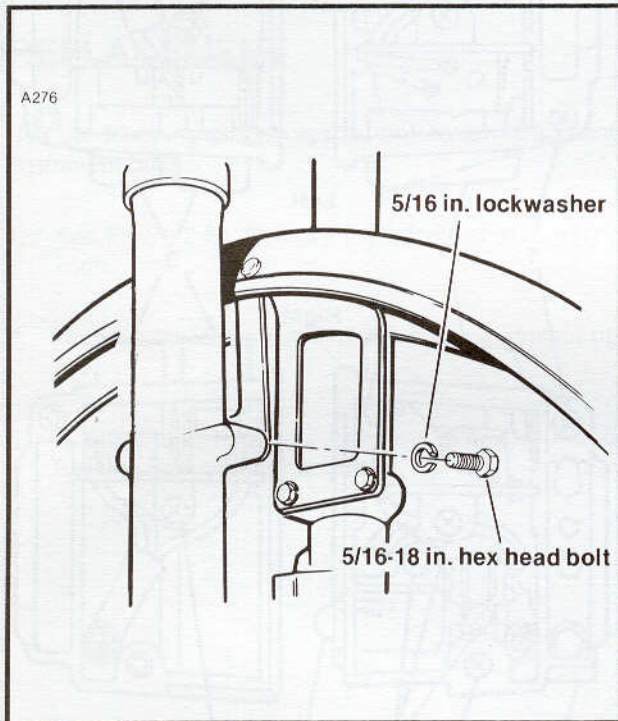

Figure 2-86. Front Fender - FXSTC
See Figure 2-86. Remove the bolts (2) and lockwashers (1) at the inboard side of the fender brace. Remove fender.
See Figure 2-86. Position new fender between fork sides. Place washer (1) on each bolt (2) and thread bolts into fork slider from inside of fender.